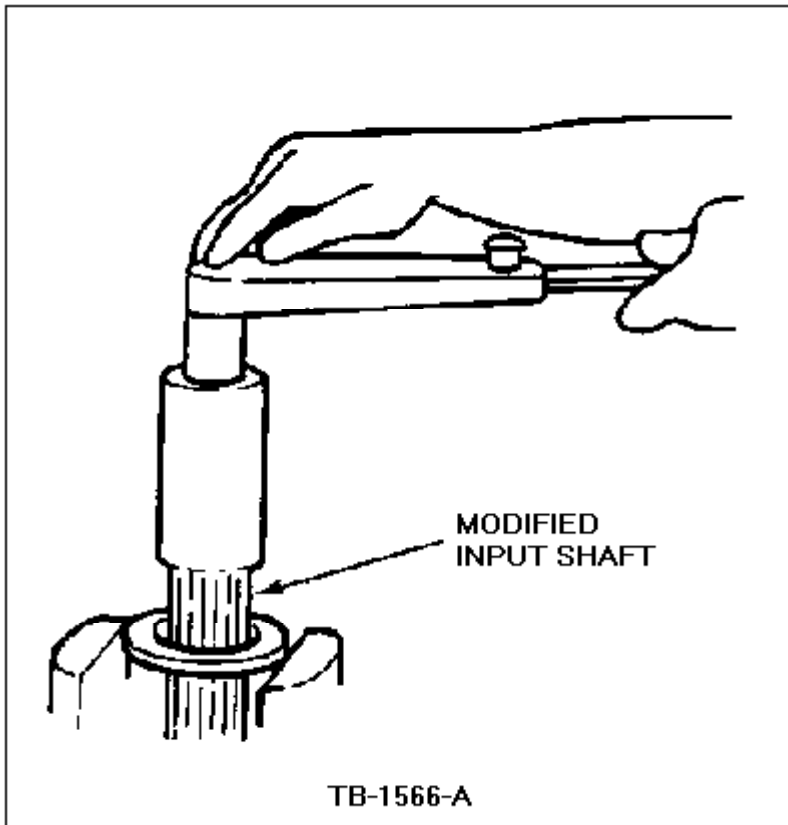

Figure 7 - Article 90-5-17
2. Slide a modified input shaft (a cut input shaft with a nut welded on it to accommodate a torque wrench) through the clutch brake, Figure 7.